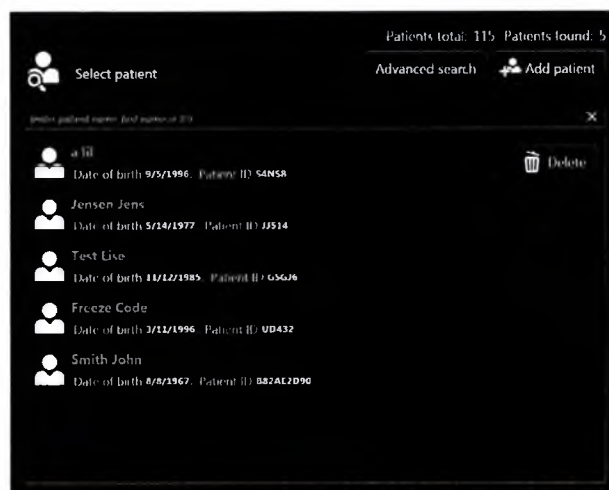

Fig. 36: Patient list (example)
2. In the upper right corner of the patient list, click 'Add patient' (Fig. 36).